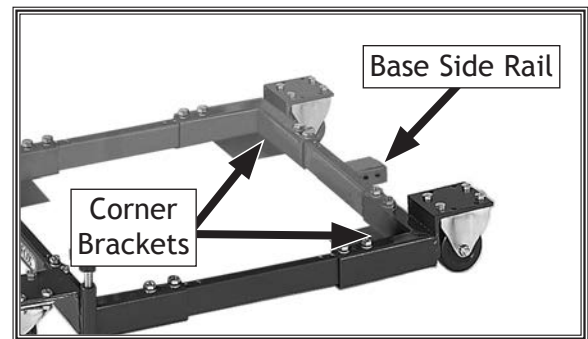

Figure 4. Side rail mounted to mobile base.
2. Remove one of the side rails from your mobile base assembly and replace it with the included base side rail with the rectangular mounting bracket (see **Figure 4**).